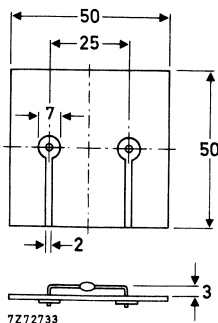

Fig. 2 Device mounted on a printed-circuit board.
2. Thermal resistance from junction to ambient; device mounted on an 1,5 mm thick epoxy-glass printed circuit board; Cu-thickness $\geq 40\text{ }\mu\text{m}$; Fig. 2 (see "Thermal model")